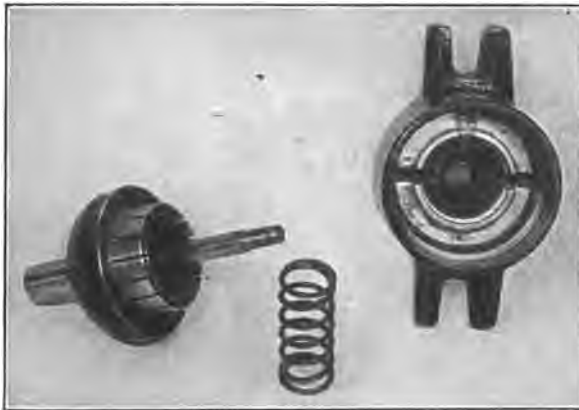

Fig. 355. Details of Wagner Switch
**Switch.** The switch is of the circular knife-blade type, two sets of spring contacts close together being pressed down over the stationary contact against the spring, as shown in Fig. 355 which illustrates the parts of the switch.